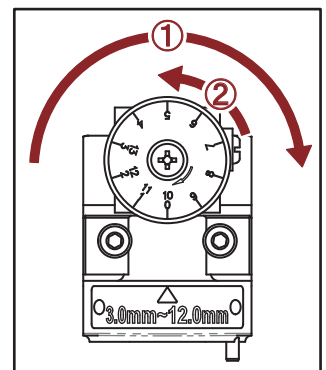
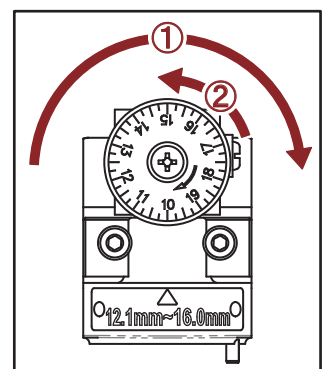

Fig. 8-1
Fig. 8-2
- Right Positioning Shelf : $\Phi 3.0 \text{ mm} - \Phi 12.0 \text{ mm}$ (Fig. 8-1)
- ① Turn it by clockwise to the end.
- ② Turn it by counterclockwise at "0".
- Left Positioning Shelf : $\Phi 12.1 \text{ mm} - \Phi 16.0 \text{ mm}$ (Fig. 8-2)
- ② Turn it by counterclockwise at "10".